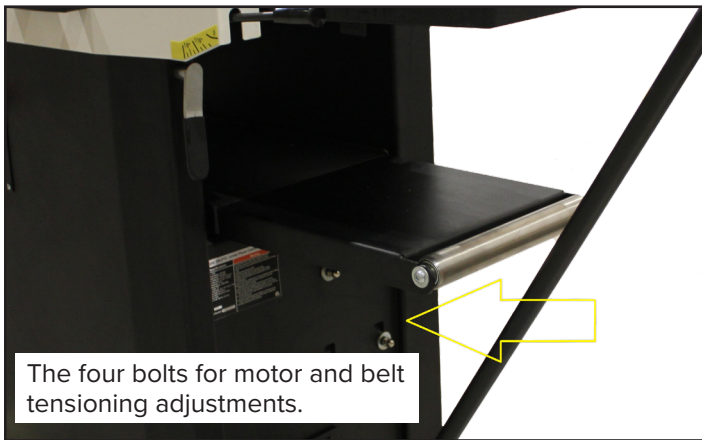

Figure 26: Motor Cap Bolts location.
2. Loosen the four Cap Acorn Nuts (#201, FIG. 26) located when facing the machine on the exterior right-side panel to release the tension on the motor. Adjust the motor position upwards to loosen the belt or downwards to increase tension.
4. The tension of the Feed Roller V-Belt (#214, FIG. 26, B) is automatically regulated by the Spring (#229, C) and does not require manual adjustments.